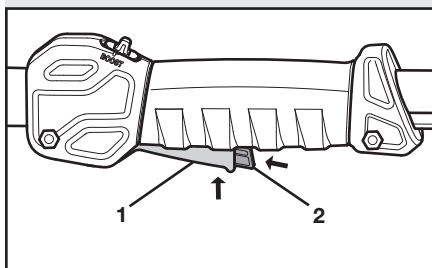

Fig. 4
2. Push the lock-off button (2) into the throttle control (1) and hold it in place (Fig. 4).
3. While continuing to hold the lock-off button, squeeze and hold the throttle control to start the unit (Fig. 4).
1. Release the throttle control (1) and wait for all moving parts to come to a complete stop (Fig. 4).